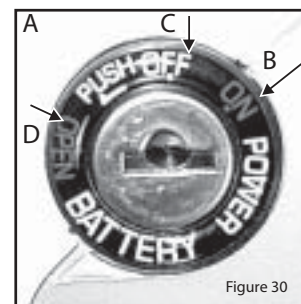

Figure 30
1. Insert the key into the switch (figure 30, A) on the side of the battery pack.
2. Turn the key clockwise to the "ON" position (figure 30, B). Do not push in.
5. Turn the switch counterclockwise to the "OFF" position (figure 30, C), and remove the key when not using the PowerCycle™.
2. Press the key into the battery pack, and turn the key counterclockwise to the "OPEN" position (figure 30, D).
1. Be sure the key is turned to the "OPEN" position (figure 30, D).